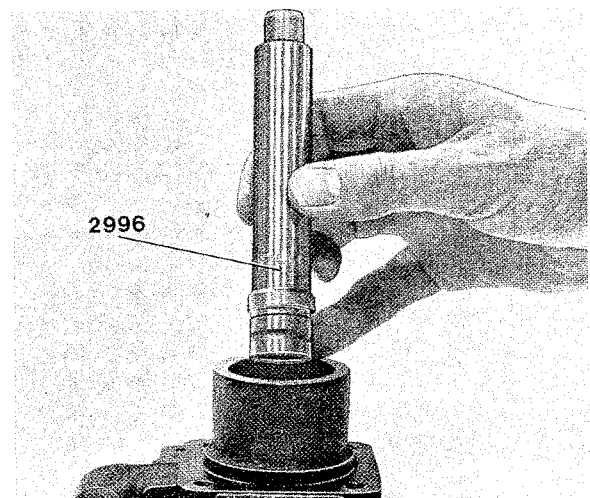

Fig. 6-98. Installing needle bearing
1. Press the needle bearing (9, Fig. 6-95) into the housing with the help of drift 2996, see Fig. 6-98. The bearing should be pressed in until the tool bottoms so that the needle bearing outer edge is 37.0–37.2 mm (1.465–1.466") from the edge of the housing.